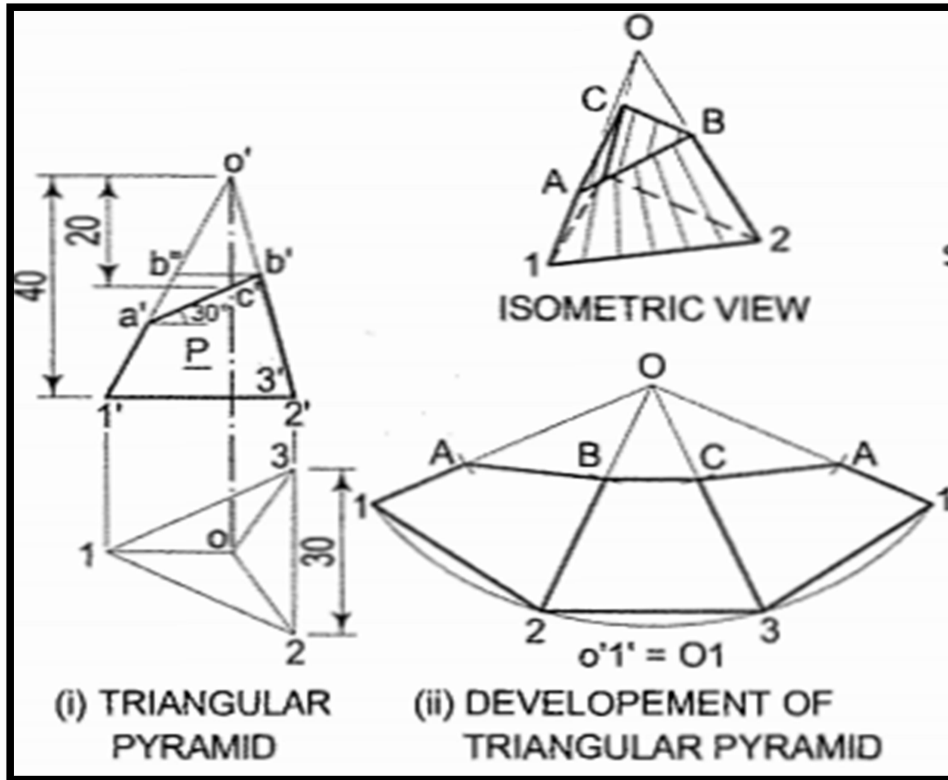

Figure:1
- The figure 1-A-A-1 is the required development.